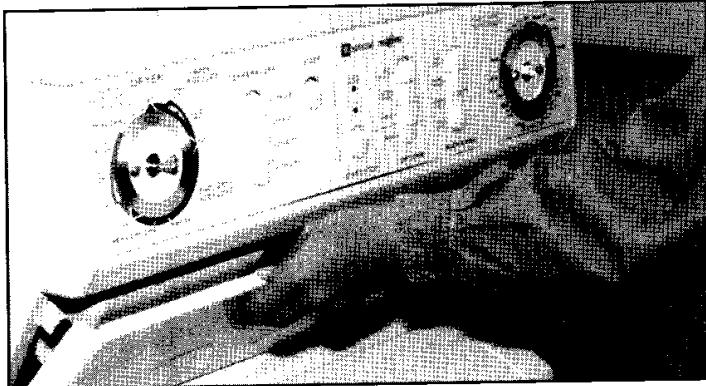
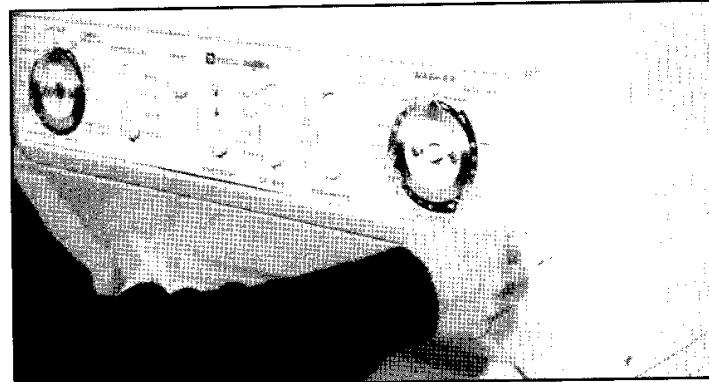

Figure 51
Figure 52
22. Rotate access panel into position, and secure with white or almond screws supplied in the miscellaneous parts package. (See figure 51.) Remove protective film from fascia and tape from edges of control panel. (See figure 52.)